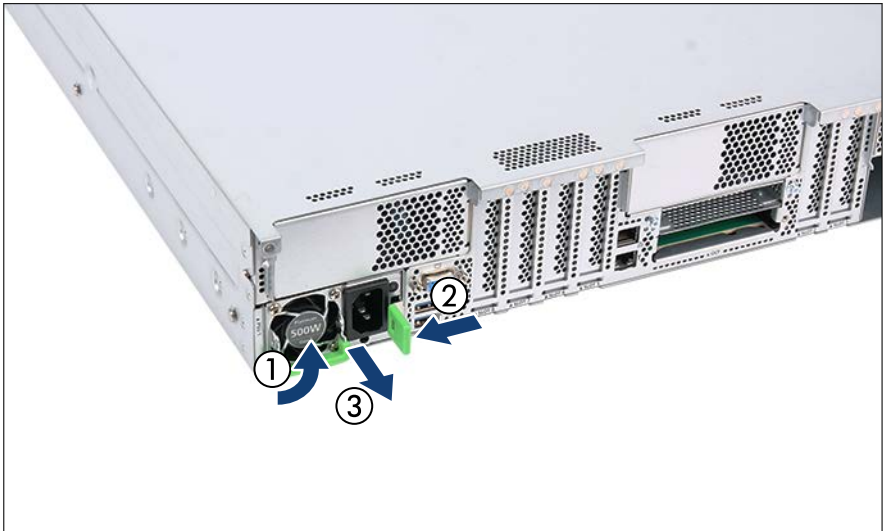

Figure 50: Removing the PSU
- ▶ Remove the PSU (see Figure 50) and install the new PSU carefully.